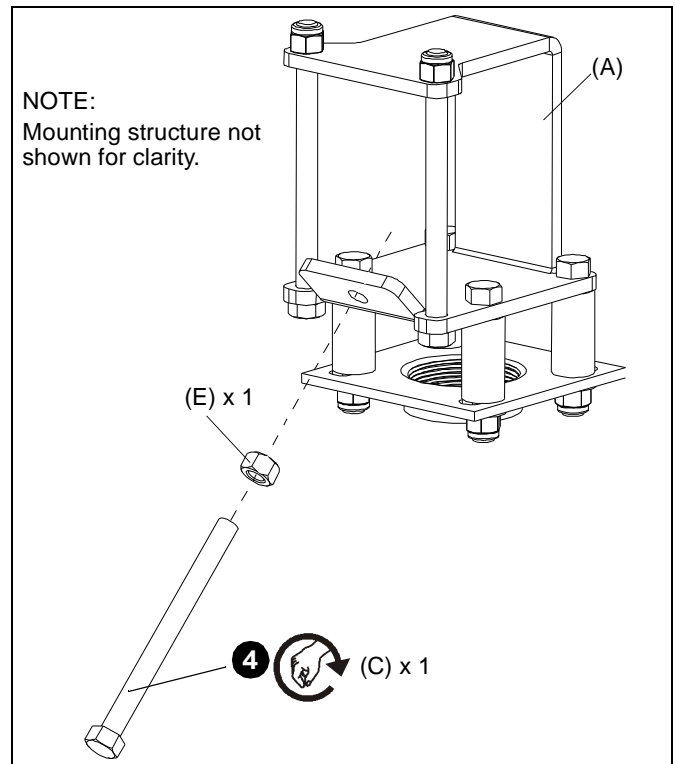

Figure 3
4. Insert 3/8-16 x 4-1/2" hex head tap bolt (C) through hole on the CMA362 (A). (See Figure 3)